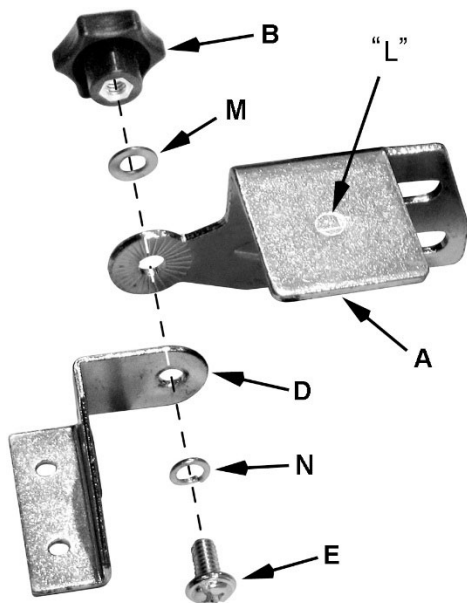

Figure 5-2: bracket to spark guard
Refer to Figure 5-2.
1. Assemble left spark guard and eye shield bracket using Figure 5-2 as a guide. Make sure spark guard and bracket are marked **L**.